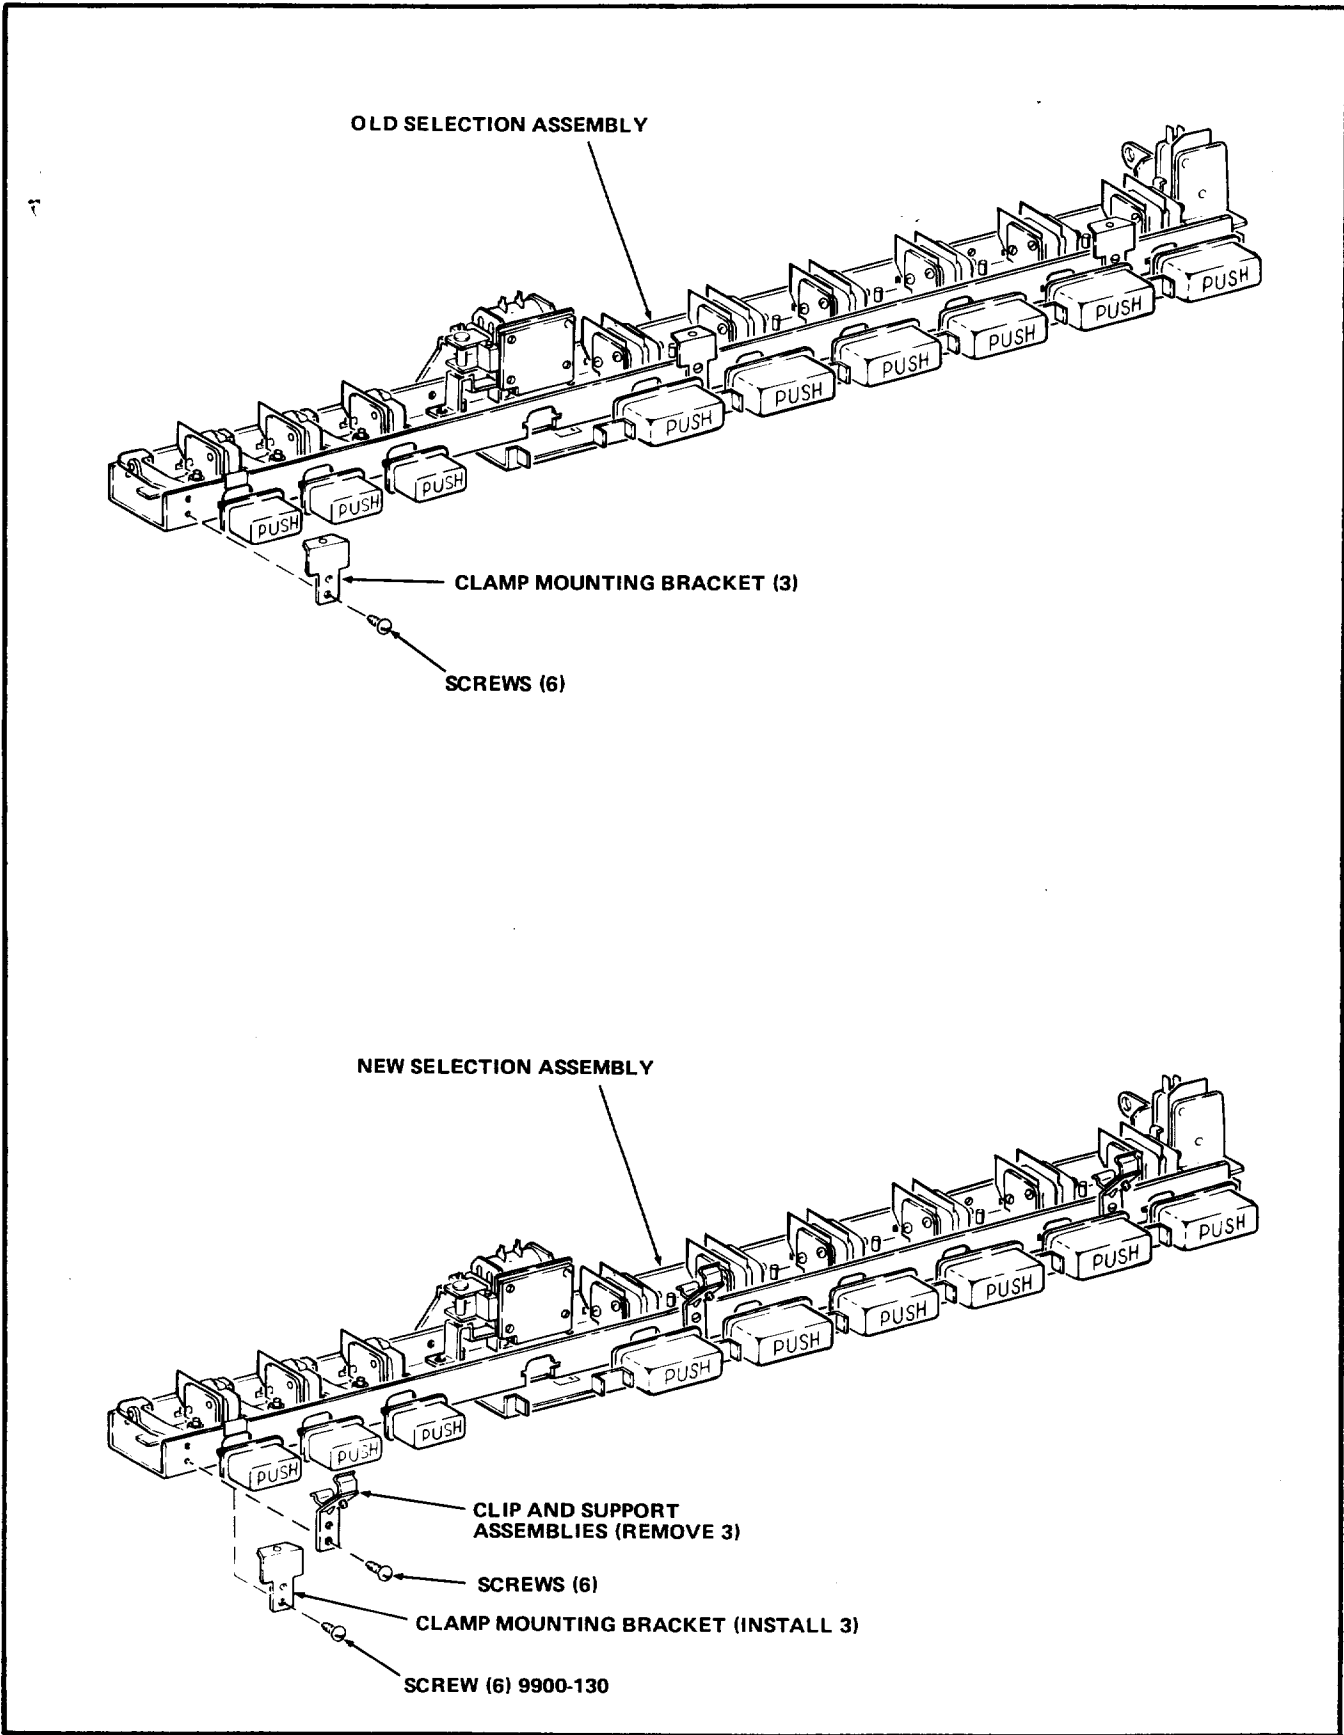

FIGURE 2
11. Using an offset screwdriver, remove six attaching screws and the three Clamp Mounting Brackets from the old Selection Assembly. See Figure 2.
12. Remove six attaching screws and the three Clip and Support Assemblies from the replacement Selection Assembly included in the kit. See Figure 2.
13. Using the six screws removed in Step 12, attach the three Clamp Mounting Brackets removed in Step 11 to the replacement Selection Assembly. The Clamp Mounting Brackets attach through the same holes which mounted the Clip and Support Assemblies. See Figure 2.